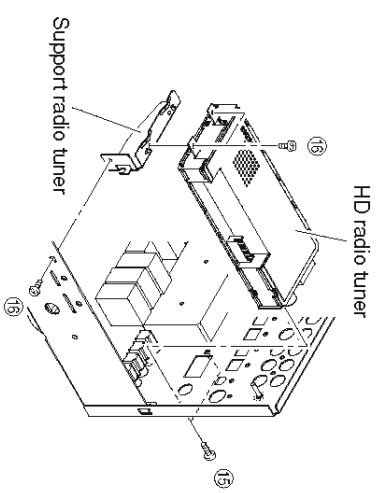

Fig. 6
- a. Remove 2 screws (15) and 2 screws (16). (Fig. 6)
- b. Remove the HD radio tuner and support radio tuner. (Fig. 6)